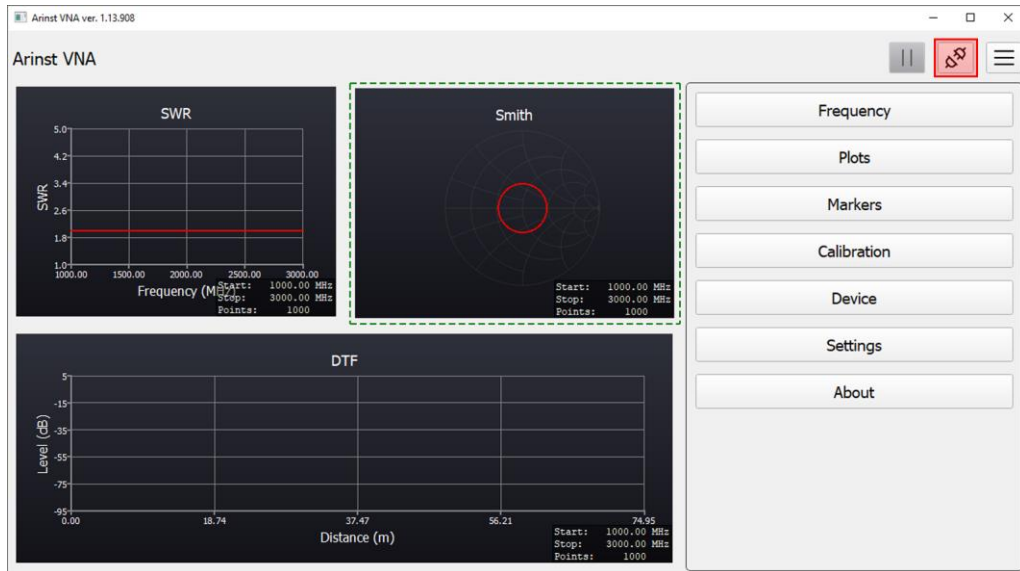

Figure 3.1 - Connecting the device to a PC
3.4. Click on the button 2 connecting the device to your PC (Figure 3.1).